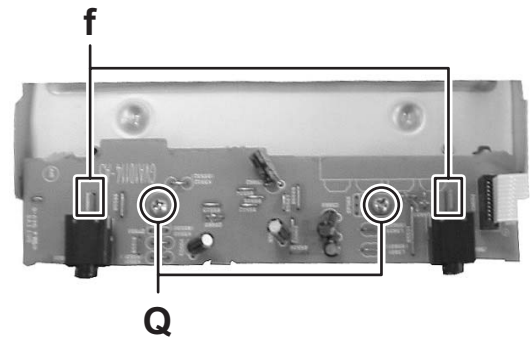

Fig.13
(See Fig.13)
- (5) Remove the feed gear and take out the feed motor. (See Fig.13)
When attaching the feed motor, the wire has to through the part **t** of the traverse mechanism assembly. (See Fig.13)